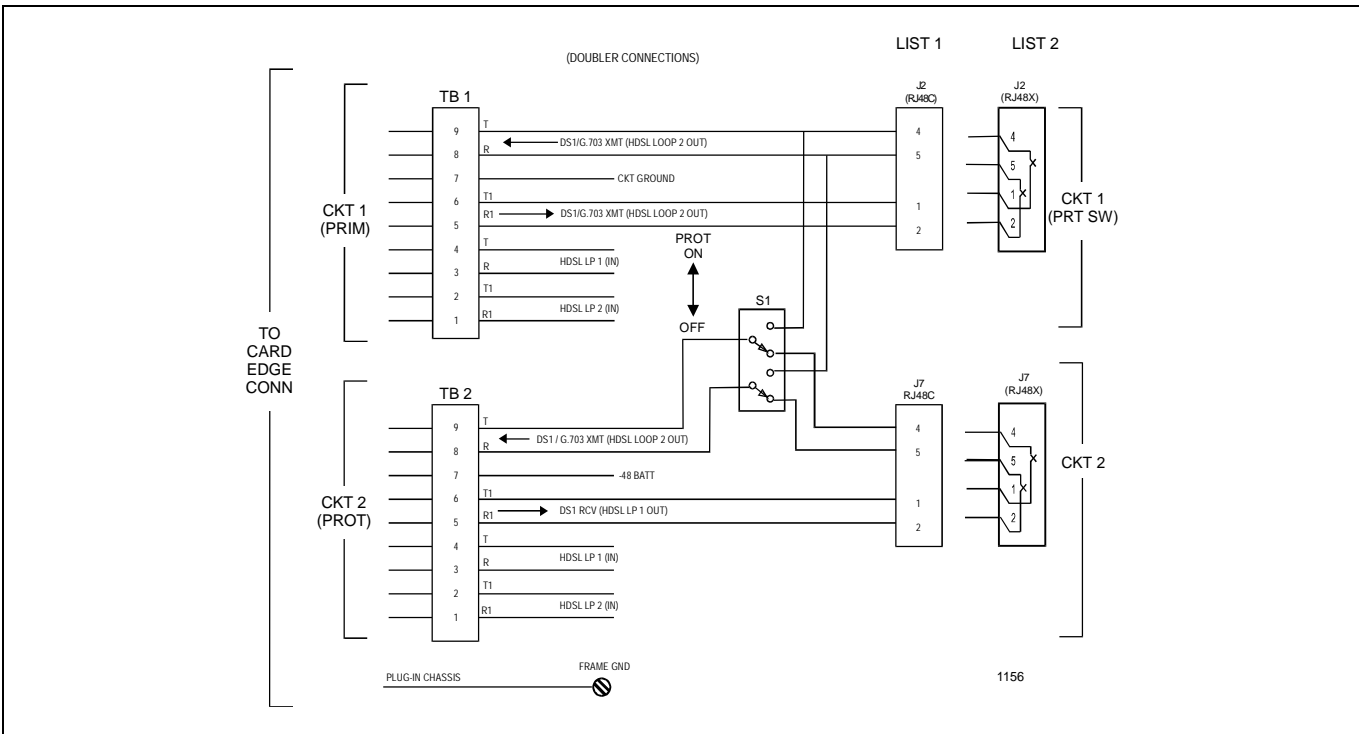
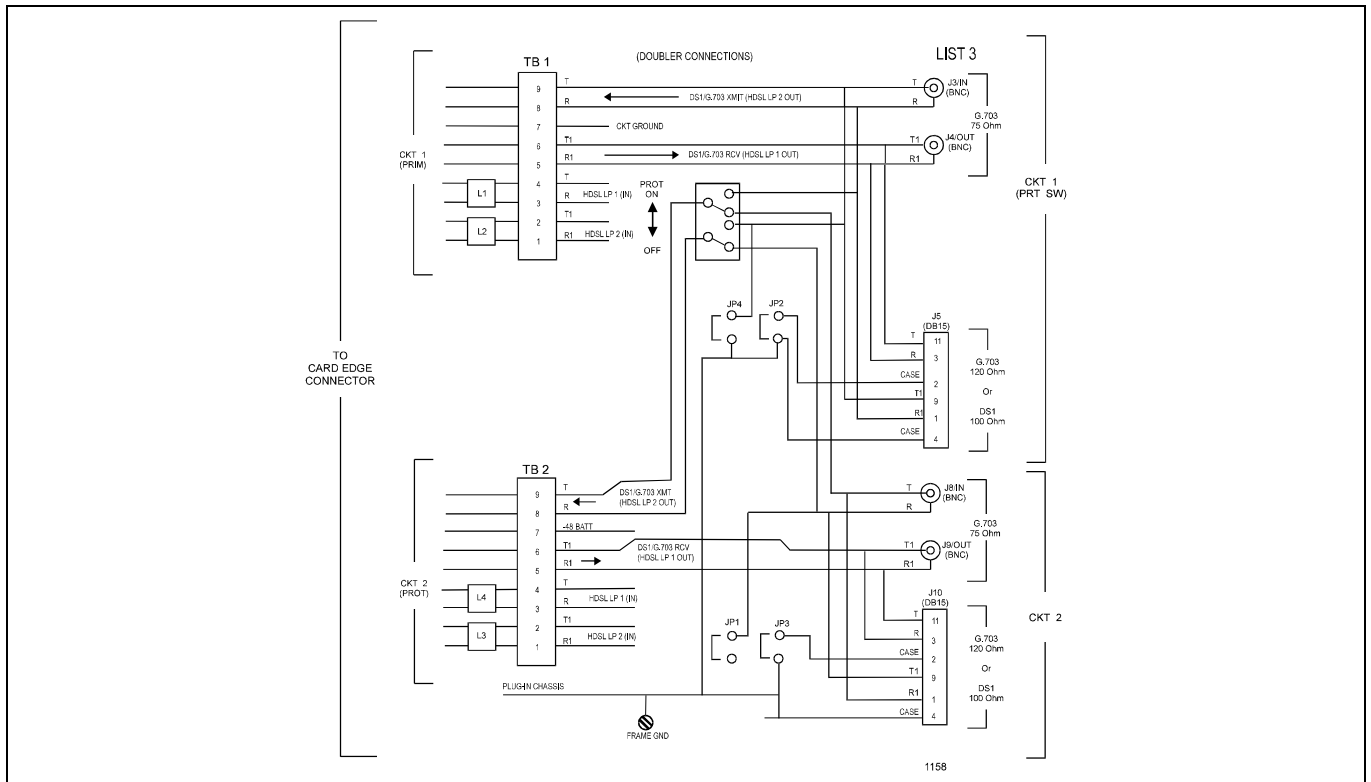
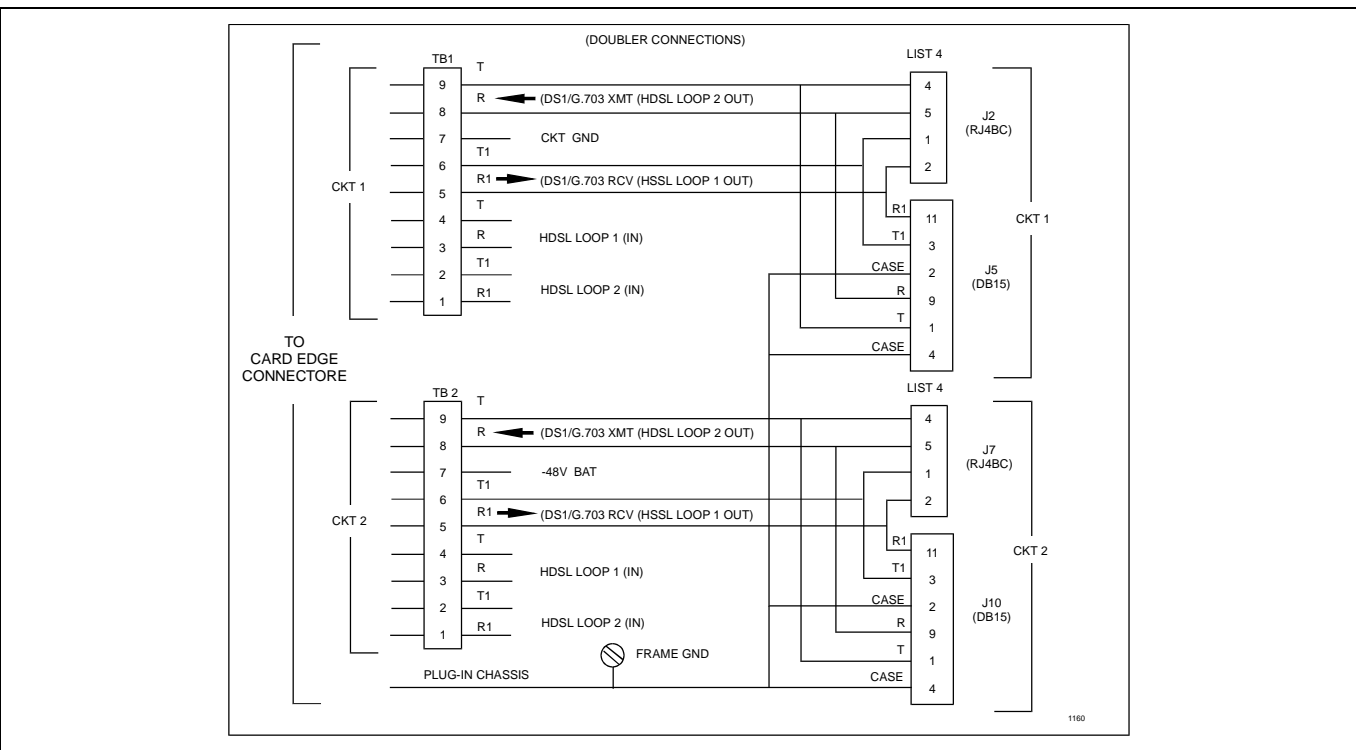

Figure 5. HRE-422, List 1 and 2 Block Diagram.
Figure 7. HRE-422, List 3 Block Diagram.
Figure 9. HRE-422, List 4 Block Diagram.
**10.01** See Figure 5 for List 1, 2 applications, Figure 7 for List 3 applications, and Figure 9 for List 4 applications. Attach earth ground to the FRAME GND lug if local practice dictates. If local power is required, connect -48V to the -48 BATT terminal of TB2 and power return to the CKT GROUND terminal of TB1. The List 3 coils, L1 through L2 in Figure 7, are balanced longitudinal (simplex) suppression chokers located in the Tip and Ring of the each HDSL pair. They prevent excessive common mode AC voltages from entering the HRE-422 module, where they could cause transmission errors.
application are shown in parenthesis in the block diagrams, see Figures 5 and 9. This is done to highlight the fact that these same pins support different interfaces in other applications.
**13.01 HDSL LOOP 1 and 2 (IN).** The two HDSL pairs coming to the HRE-422 Remote Units from the field connect to the HDSL LP 1 and 2 terminals of the TB1 and TB2 terminal blocks, see Figures 5 and 9.